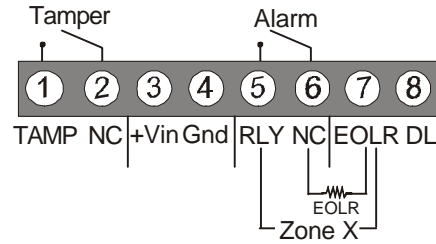

Figure 1: Terminal Block
- Connect the wires** to the terminal block (as shown in figure 1).
Terminal 7: Optional end of line resistor - see figure 1.